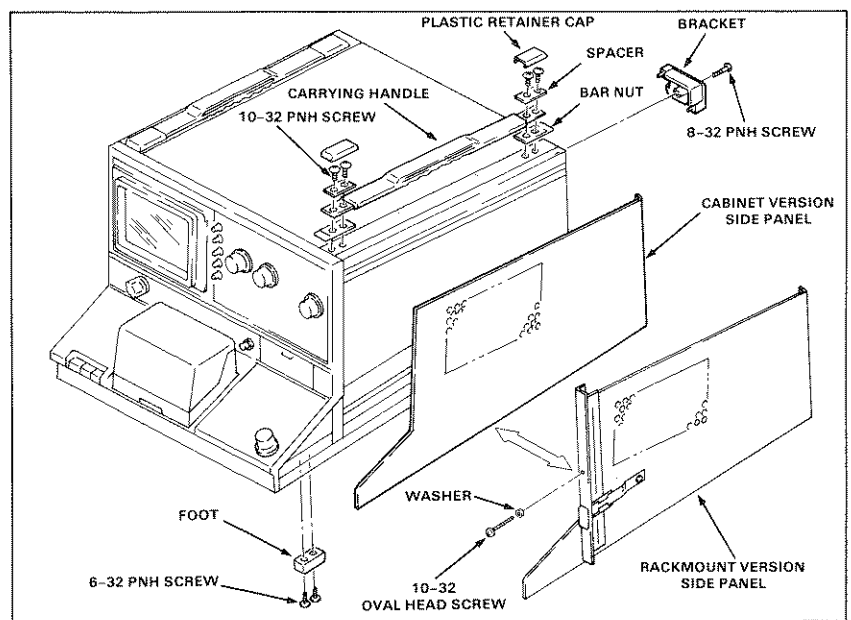

Figure 1-6. Cabinet-to-Rackmount Conversion.
**Rackmount to Cabinet Conversion.** To convert the 370 rackmount version to a cabinet model, use the following procedure (see Fig. 1-6):
**Cabinet to Rackmount Conversion.** To convert the 370 cabinet model to a rackmount version, use the following procedure (see Fig. 1-6):